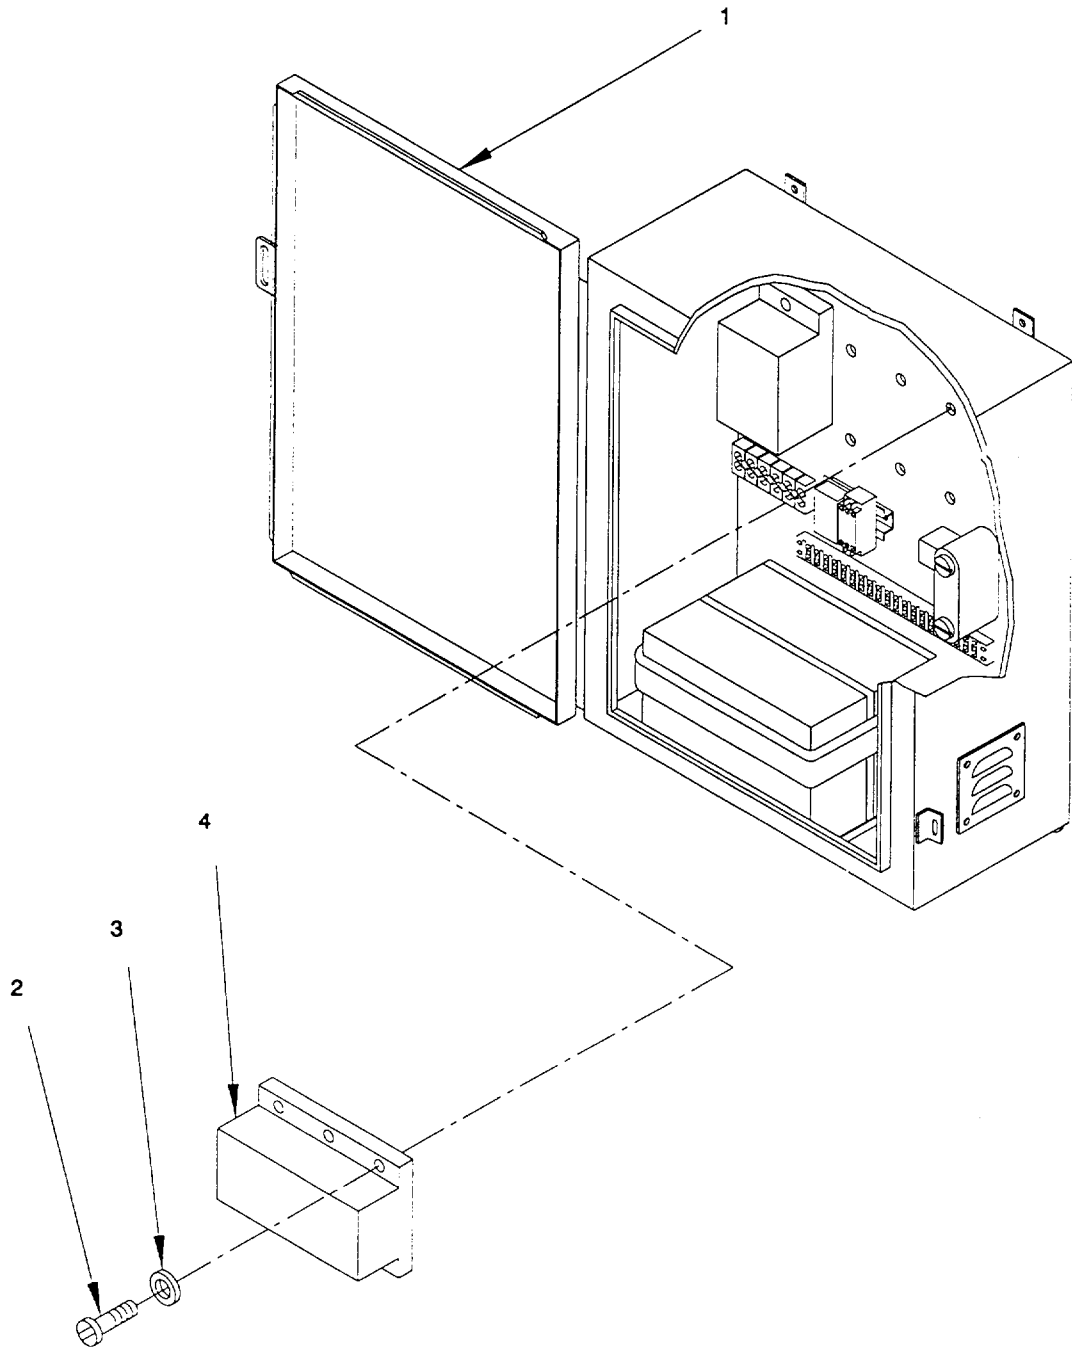

Figure 2-78. Isolator, Pump-Jet Direction/Auxiliary Battery Junction Box "A9", Remove/Install.
a. *Remove.* (figure 2-78)
- (1) Open enclosure door to access interior of junction box (1).
- (2) Disconnect electrical wiring to junction box A9 (1) and tag OUT OF SERVICE.
- (3) Remove six pan head screws (2) and collect flat washers (3) freeing isolator (4).
b. *Install.* (figure 2-78)
- (1) Position isolator (4) in junction box A9 (1) and secure with six pan head screws (2) and flat washers (3).
- (2) Connect electrical wiring to junction box A9 (1). Refer to Appendix G.
- (3) Close door to junction box (1).